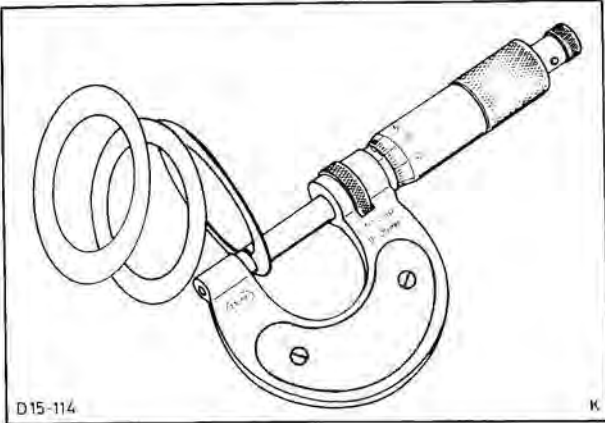

Fig. 91. Choose correct shims
43. Refit taper roller bearings to differential housing with chosen shims, Fig. 91, as described in sub-operation 31.